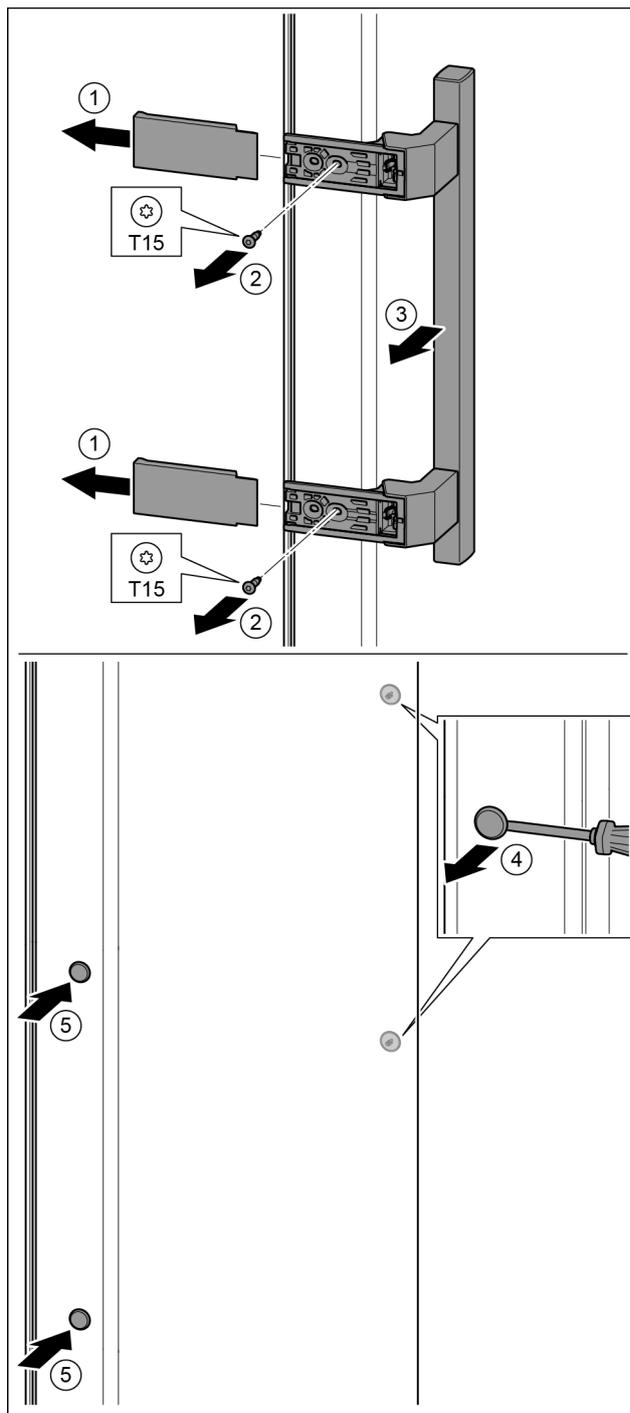

Fig. 18
- ▶ Pull off the cover. Fig. 18 (1)
- ▶ Remove the screws with the T15 screwdriver. Fig. 18 (2)
- ▶ Remove the handle. Fig. 18 (3)
- ▶ Carefully lift up the side plugs with a slotted screwdriver and pull them out. Fig. 18 (4)
- ▶ Insert the plugs again on the other side. Fig. 18 (5)